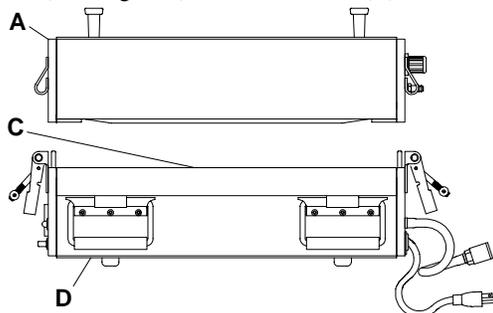
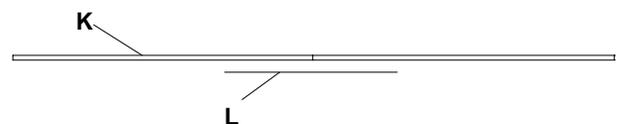
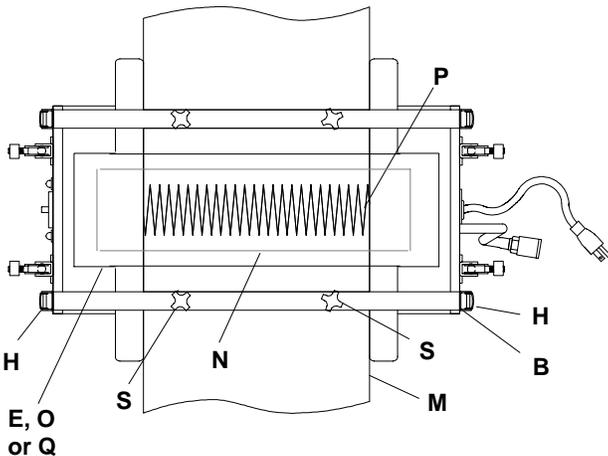

Figure 1: Side View of Heat Press
Figure 2: Film Placement for Woven Polyester Belt
**Figure 4: Overhead View
- Remove upper half of heat press (A of Figure 1) and both clamping bars (B of Figures 4 & 5). Wipe off white laminate plate (C of Figure 1) on the lower half (D) of the heat press.
- Place one of the two pieces of #891-020, textured teflon release fabric (E of Figure 4) (which was furnished with the heat press), centered horizontally and vertically, on the white laminate plate (C). For splicing belts other than woven polyester or black anti-static, skip to step 4.
- If splicing a woven polyester belt (K of Figure 2), cut an appropriate length (I of Figure 4) [to match belt width plus a 2" (51 mm) overlap on both sides] of clear urethane splicing foil (film) (L of Figure 2) #815-011 (sold separately). Be sure to remove the white paper backing, before installation. When installed, foil will be below belt as shown.
- If splicing a black anti-static belt (K of Figure 3), cut an appropriate length (I of Figure 4) [to match belt width plus a 2" (51 mm) overlap on both sides] of black urethane splicing foil (film) (L of Figure 3) #815-016 (sold separately). When installed, foil will be below belt as shown.
- Place the one end of the belt (F of Figure 4) onto the teflon release fabric (E) so that the splice fingers (J) are horizontally and vertically centered as shown. Next, lay the appropriate thickness (see Table 1) shims (G) against the belt, with equal amounts extending beyond each side of the press as shown. Then, attach the clamping bar (B) by engaging the latches (H). Be sure that the shims are tight against the sides of the belt before tightening the clamping bar knobs (S).
Tighten knobs (S of Figure 4) only enough to secure shims and belt from moving. Recheck belt fingers (P), to make sure they have not moved apart.
- Place the other end of the belt (M of Figure 5) onto the teflon release fabric (E of Figure 4) so that the splice fingers (P of Figure 5) are horizontally and vertically aligned, and between and against the shims installed in step 4. Next, proceed to push the fingers, on both ends of the belt, together to create a zig-zag pattern while making sure not to exceed 1/32" (1 mm), at the tips of the fingers (P). Then, attach the other clamping bar (B) by engaging the latches (H). Again, be sure that the shims are completely against the sides of the belt before tightening the clamping bar knobs (S).
14. To remove belt from press, disconnect gray air hose (V) from the fitting (W) on the top half of the press, unlock 2 main tension latches (T) at each end of the press, and remove upper half of press. Remove both clamping bars (B of Figure 4 & 5) by unscrewing knobs (S) until they turn freely, and unlocking latches (H). Peel away both pieces of teflon fabric (or the silicone impression mat) and shims from both sides.